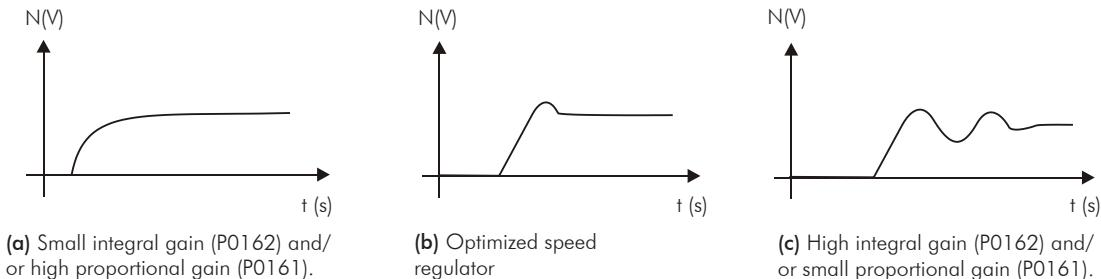

Figure 11.4 - Speed regulators response types
6. Verify among the options of the Figure 11.4 on page 11-18, which waveform best represents the observed signal.
7. Adjust P0161 and P0162 according to the response type presented in the Figure 11.4 on page 11-18.